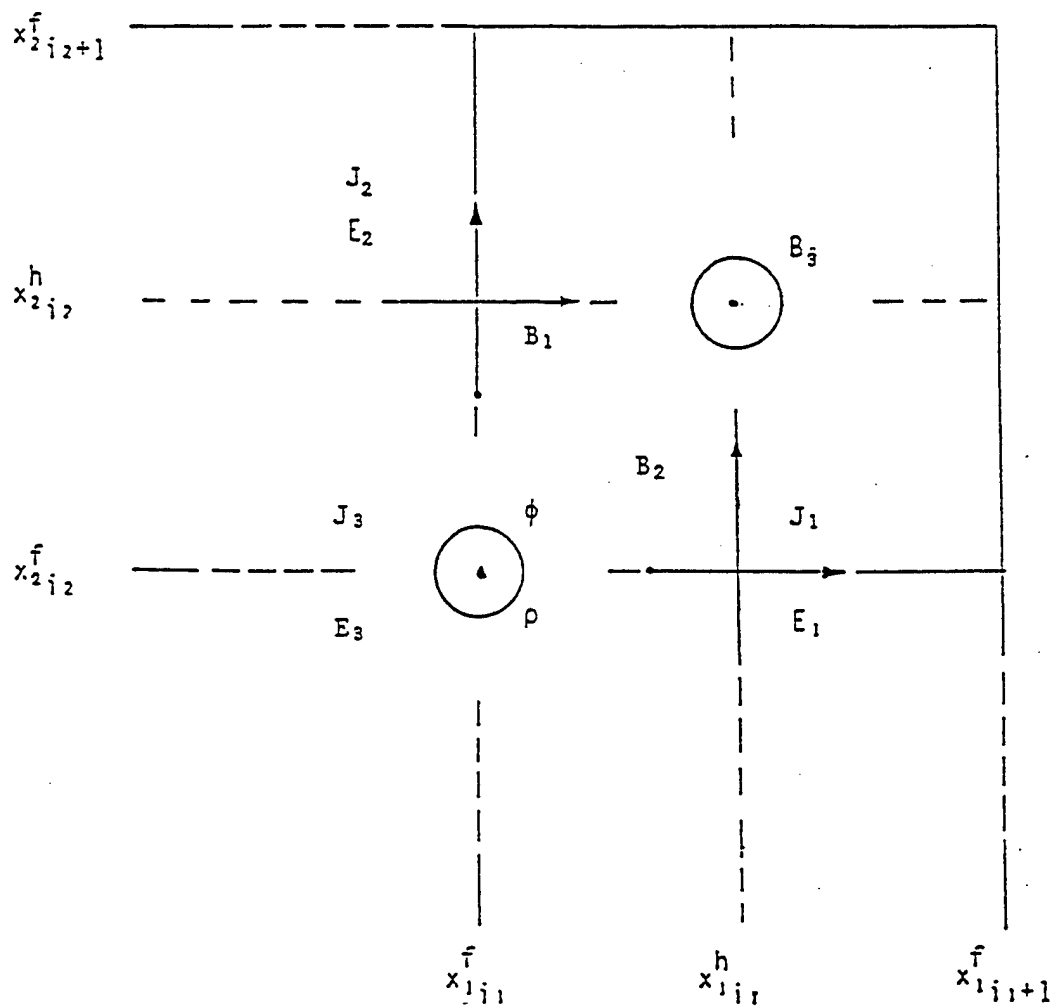

Figure 17-1. Spatial definition of fields.
1. Field definition — The electromagnetic fields (E1, E2, E3, B1, B2, B3) as well as the charge and current densities (Q0, J1, J2, J3) are defined at discrete locations in time and space. Figure 17-1 illustrates the spatial definition in the unit cell. The cell shown is square; however, in practice it will be elongated (GRID, Ch. 11), and the sides will be curved (or non-parallel) in polar and spherical coordinates (SYSTEM, Ch.10). The fields are also defined at discrete values of time (TIME_STEP, Ch. 17), with the electric and magnetic fields separated by half a time step.